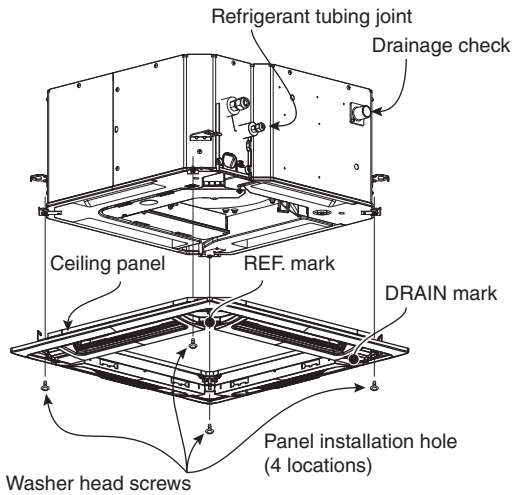

Fig. 7-19
- (2) Align the panel installation holes and the unit screw holes.
- (3) Tighten the supplied washer head screws at the 4 panel installation locations so that the panel is attached tightly to the unit. (Fig. 7-19)